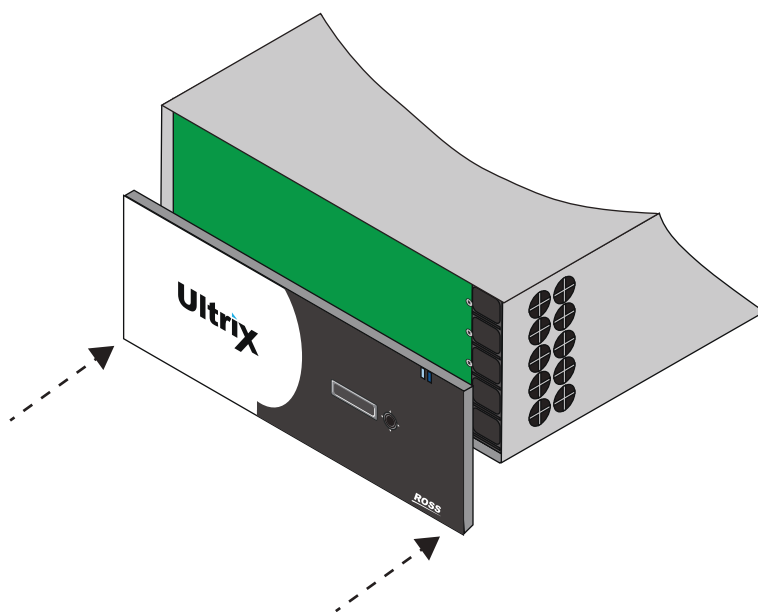

Figure 77 ULTRIX(-NS)-FR5 — Aligning the Door to the Chassis
- the corner with the Ross logo is in your right hand. (**Figure 77**)